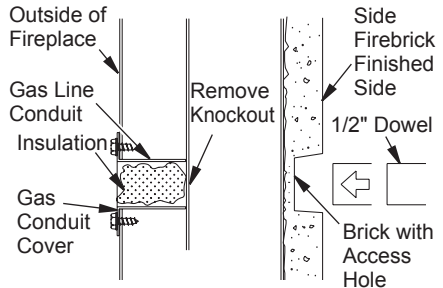

Figure 26 - Gas Line Access
1. Remove knockout indentation on refractory or firebrick wall located above refractory hearth floor. Knockout indentation must be firmly tapped with any solid object such as a 1/2" dowel until it is released. Remove fragmented portions of refractory (see Figure 26).